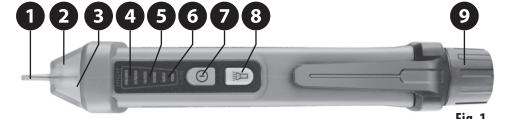

Fig. 1
- Do not use this device when its power indicator is not lit, i.e. button in fig. 1, position 7 is not lit.
Turning on: Press the On/Off button (fig. 1, position 7) for more than 1 second. The button must light up. In the event that the button does not light up, do not use the device and arrange a remedy for this condition.
Turning on: Press the button with the flashlight symbol (fig. 1, position 8) to turn on the flashlight. Turning off: Press the button with the flashlight symbol again to turn the flashlight off.
The detection of alternating-current voltage works on the principle of non-contact detection (NCV) without a conductive connection of the device with the tested object. Place the test probe (fig. 1, position 1) of the device on the tested object or if this is not possible as close as possible to the tested object. If the device detects voltage in the tested object, the light signal head (fig. 1, position 2) will flash read and will be accompanied by an intermittent sound signal at a varying frequency. The signal intensity (high, medium, low) will be shown by means of signal intensity indicators, see fig. 1, positions 4, 5, 6. For example, placing the test probe (fig. 1, position 1) directly on the insulation of a conductor with a voltage of 230 V ~ 50 Hz („L“ phase) is accompanied by an intermittent warning light signal of the highest frequency on the light signal head (fig. 1, position 2), an intermittent sound signal of the highest frequency and likewise all the signal intensity indicators are lit (fig. 1, position 4) red and the remaining indicators are lit yellow. If the device's test probe is moved away from the conductor by only 1 cm, the sound and light signal frequency will be reduced and the signal intensity indicators will be lit with medium intensity (fig. 1, position 5). At a distance of 1.5 cm from the same conductor, the frequency of the warning light and sound signals will be even lower than in the previous example and the low signal intensity indicators (fig. 1, position 6) will be lit. **At a distance of 4 cm from the same conductor, the device will not emit any light or sound warning signal**, i.e. as if the examined conductor were not live (appears to not be under voltage). **From the aforementioned examples the limitation that can distort measurement results are evident, e.g. the distance of the conductor from the device's probe in masonry, environmental shielding of the conductor, etc. If for example the live conductor is deeper inside a masonry wall and the detector is not emitting any warning signal, it does not mean that the conductor is not live or that there is no live conductor in the masonry wall.**